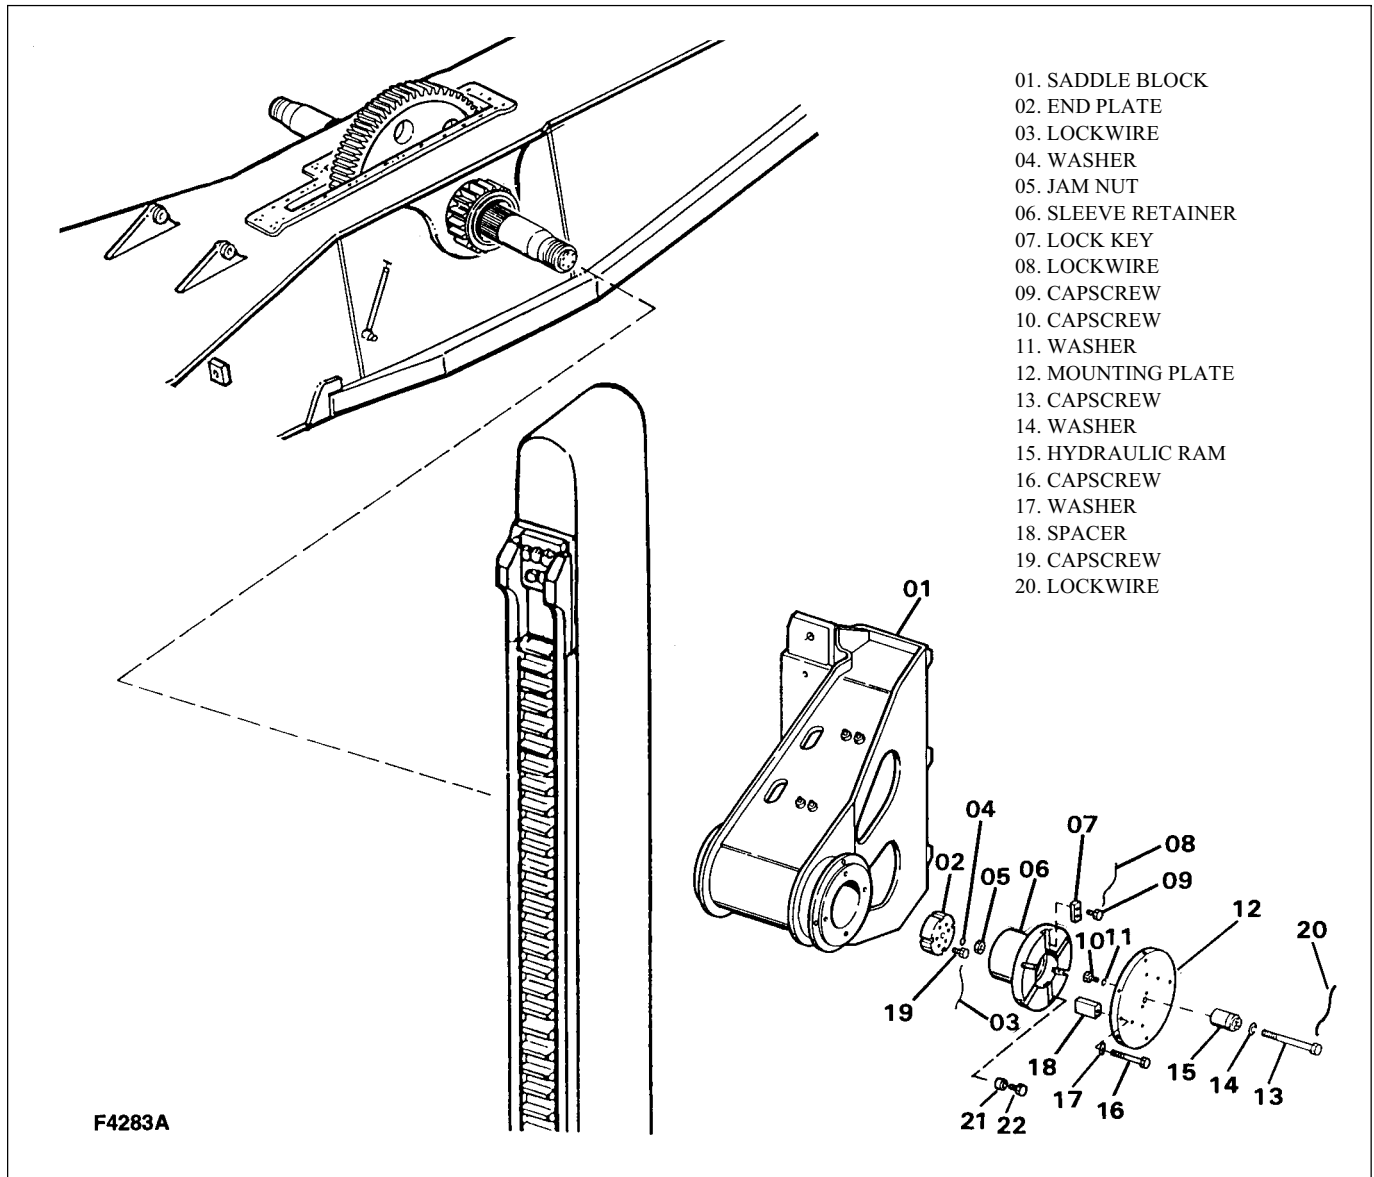

Figure 6-8. Dipper Handle Removal/Installation
DIPPER HANDLE REMOVAL. Refer to Figure 6-8 and remove the dipper handles as follows:
- A. Remove hydraulic rams (15, Figure 6-8) and ram mounting materials from each end of the shipper shaft.
- B. Remove mounting plate (12) and spacers (18) by removing lockwire and capscrews (16) and washer (17).
- C. Remove locking key (07) by removing lockwire (08) and capscrews (09).
- D. Remove capscrews (22) and spacers (21) from sleeve retainer (06).
- E. Remove end plate (02) by removing lockwire (03) and capscrews (19).
Refer to Figure 6-8 and install the dipper handles as follows:
1. Position the saddle blocks (04, Figure 6-8) as follows: